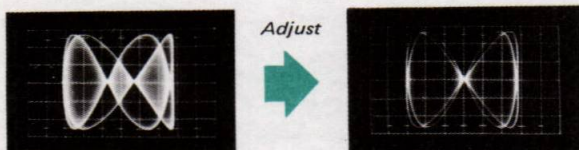

Fig. 3-10. Lissajous pattern
3. Turn the pilot-signal (19 kHz) phase control to obtain an in-phase and stable lissajous pattern as shown in Fig. 3-10.